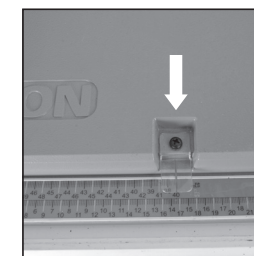

FIG. 27
**Note:** The Fence Rail will 'travel' with the RH table extension when it is deployed. A window with datum index line is built into the front edge of the table to aid setting. (**Fig. 27**)